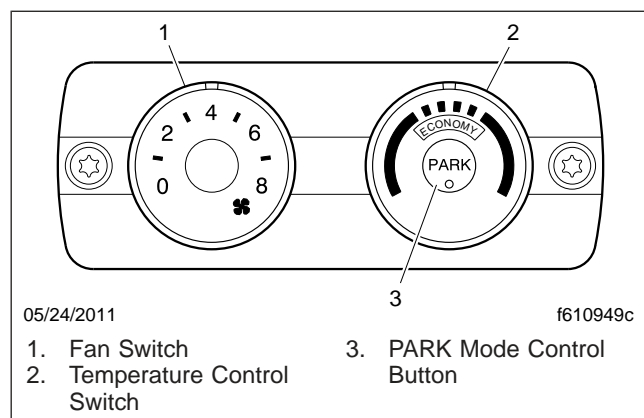

Fig. 8.6, ParkSmart Climate Control Panel
The ParkSmart climate controls operate similarly to the standard sleeper climate controls. The temperature settings range from 60°F (15°C) to 85°F (29°C), with 74°F (23°C) at the very center of the range. The fan switch activates the fan. The fan switch has eight fan speeds. Zero (0) is the OFF position. See Fig. 8.6. To operate the fan switch, turn the switch clockwise to increase airflow; turn the fan switch counterclockwise to decrease airflow.
- The ParkSmart runs unless the ParkSmart fan speed control knob is turned to the "OFF" position. See Fig. 8.6. The fan speed control knob must be set at "1" or higher.